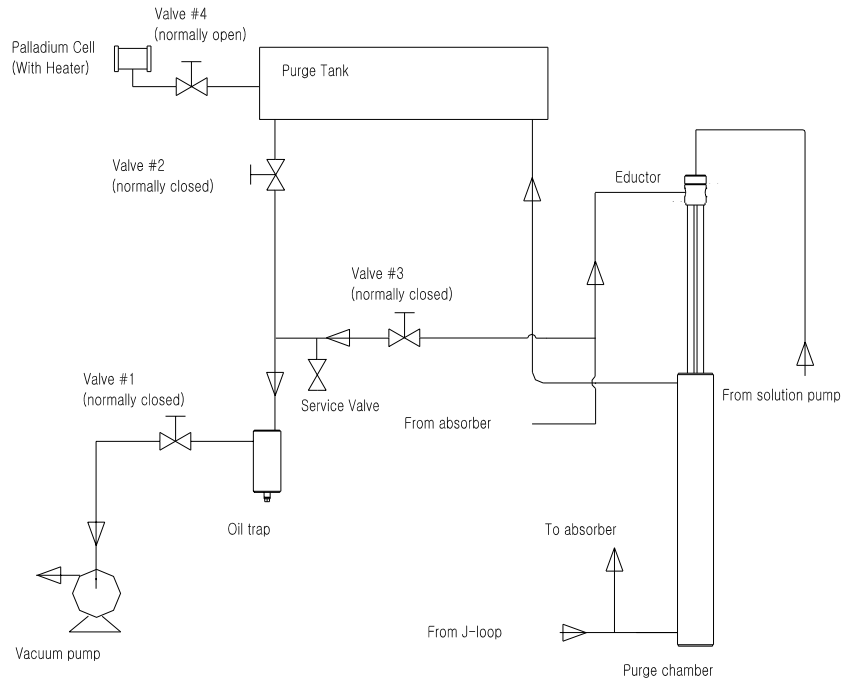

Fig. 8-1 Purge Procedure
Hydrogen gas, which is generated normally in the chiller, is exhausted to the atmosphere from the purge tank through the heated palladium membrane cell. This is done automatically and continuously during cooling and heating operation. For the automatic purge, the valve #4 (See Fig. 8-1) is normally placed in open position.
2. Turn the vacuum pump ON with ballast valve a little open. Initially, valve #1, #2 and #3 should be placed in closed position. See the Fig. 8-1 for valve location.
1. Make sure that the valves, #1, #2 and #3, are placed in closed position. (See the Fig. 8-1.)